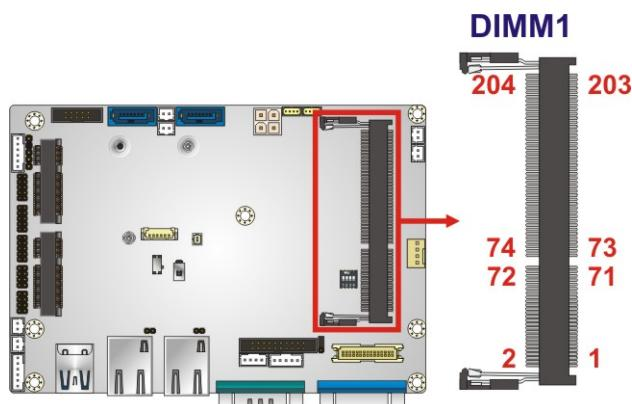

Figure 3-24: SO-DIMM Connector Location
**CN Location:** See Figure 3-24